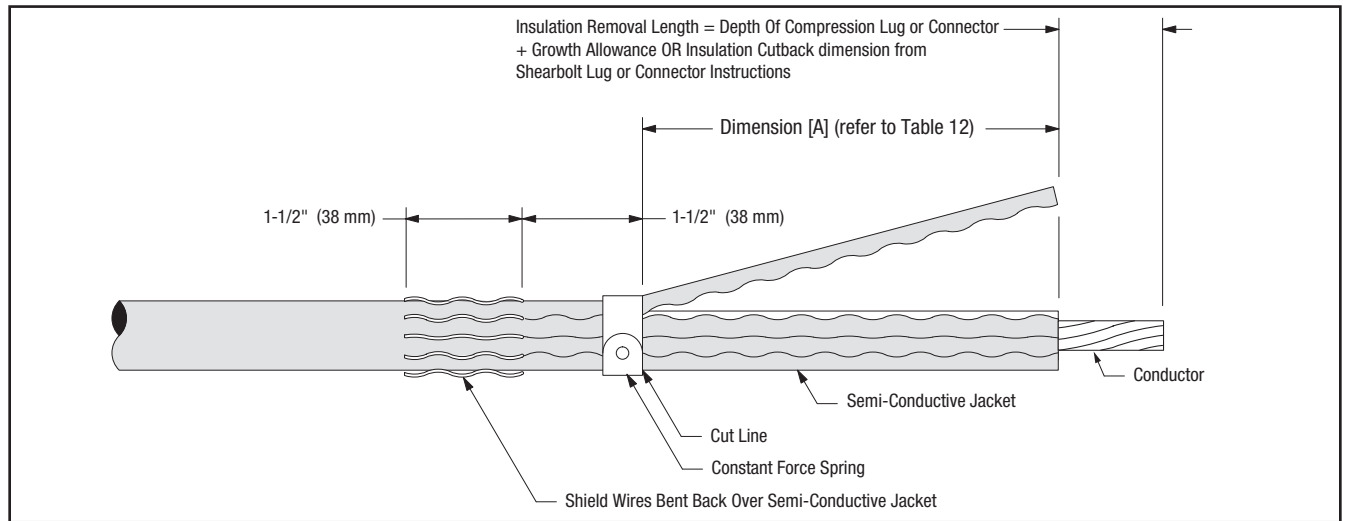

Figure 18
- 12.7 Remove semi-conductive jacket to dimension shown in Figure 18.
NOTE: To ease jacket removal, install constant force spring as shown in Figure 18 and ring-cut 80% through jacket. Remove jacket sections by pulling against constant force spring. **DO NOT BELL SEMI-CON JACKET.** Remove constant force spring.